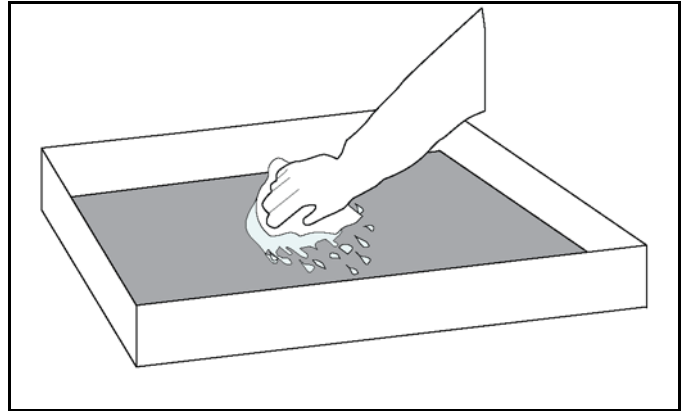

Figure-148
15. Rinse with a separate clean, sanitizer-soaked grill cloth to rinse off the remaining grill cleaner. Repeat for all of the release sheets. See Figure-148.